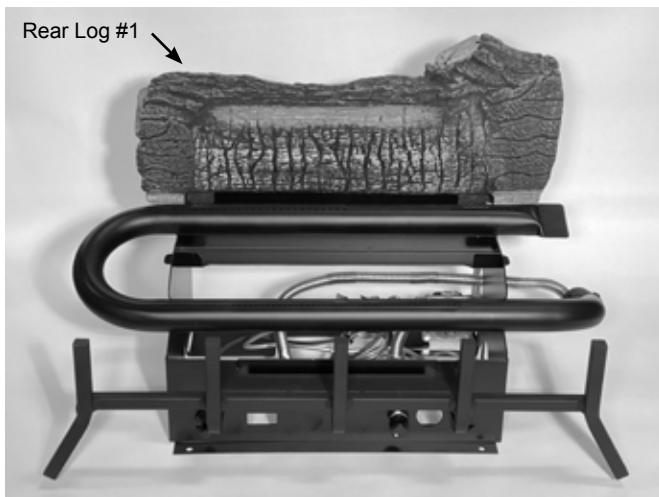

Figure 6.6 - Place Rear Log
1. Place Rear Log (#1) on rear support. Figure 6.6